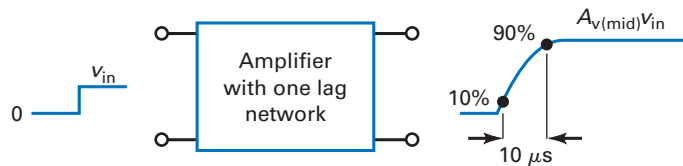

Figure 34-27
34.30 The amplifier of Fig. 34-27 has a midband voltage gain of 100. If the input voltage is a step of 20 mV, what is the output voltage at the 10% point? The 90% point?